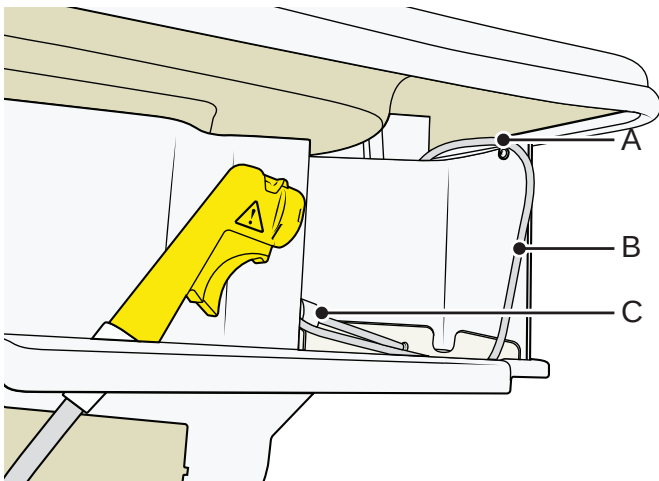

Figure 145
Hose (B) length between disinfection bottle cap (C) and hose clamp (A) should be $480 \text{ mm} \pm 10 \text{ mm}$ ($24 \text{ in} \pm 0.4 \text{ in}$). See Figure 145.